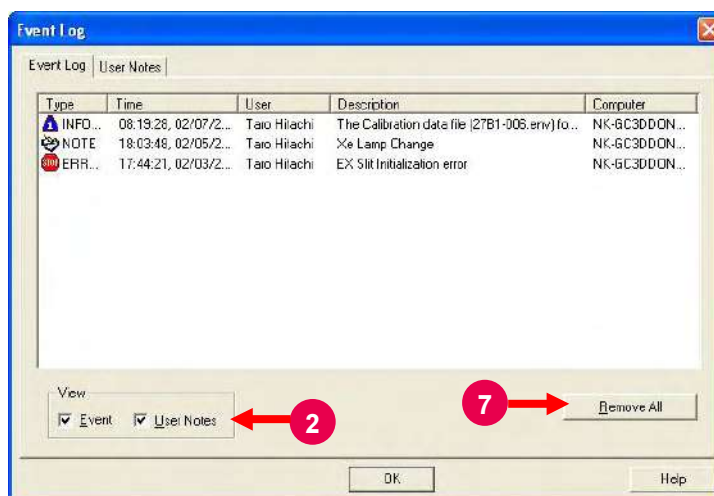

Fig. 8-14 Event Log Tab
- (2) The Event Log tab page will appear as shown in Fig. 8-14. It displays the occurrence time, user, description and computer for communication errors, etc.
- (3) By putting a check mark in the Event or User Notes check box in "View," you can display the corresponding details. (Refer to ② in Fig. 8-14.)
By clicking **Yes**, the event log and all of the user information will be cleared. (Refer to ⑦ in Fig. 8-14.)